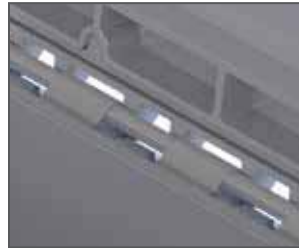
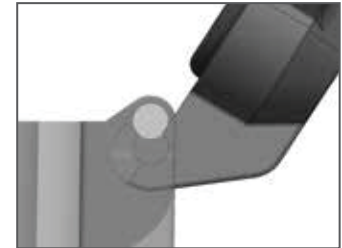

Fig. 2
Fig. 3
1. Secure the box on a stable flat surface. Align the hinge knuckles on the cover with hinge pins on the box (Fig. 2 and Fig. 3).